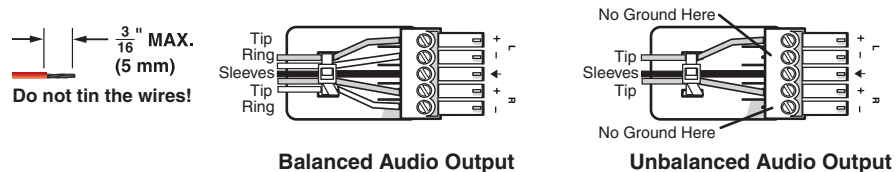

Figure 5. Analog Output Connector Wiring
- E Analog audio output** — Connect an audio output device to this 5-pole 3.5 mm captive screw connector (see figure 5 for wiring). This connector outputs a 2-channel LPCM (converted to analog) that is extracted from the HDMI input signal.